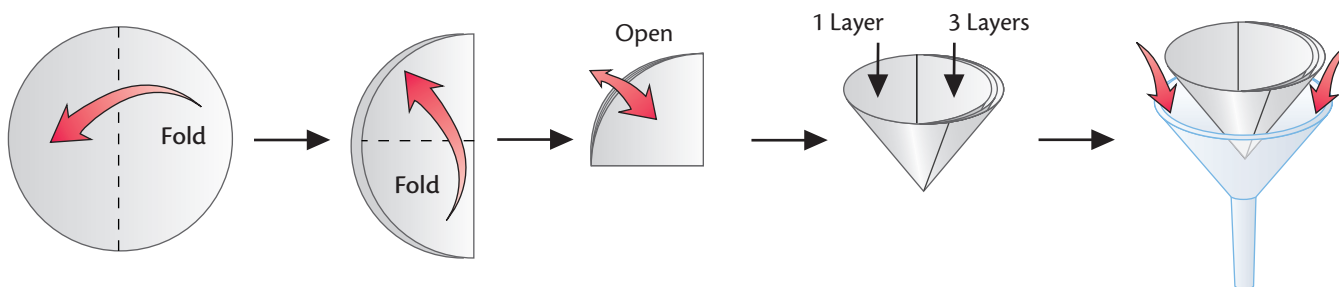

Figure 5 Folding filter paper.
16. Fold a piece of filter paper as shown in Figure 5.